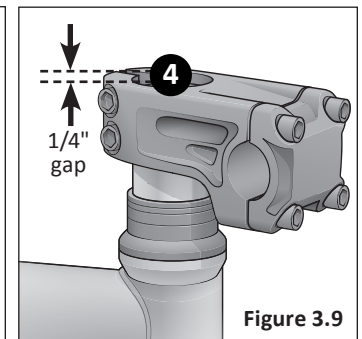

Figure 3.9
- 4 There should be 1/4" space from the top of the steerer tube to the top of the stem opening. If you have more than 1/4" space, remove one or more of the headset spacers. **Figure 3.9**